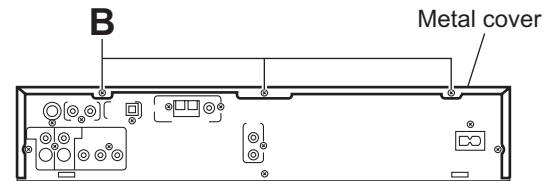

Fig.3
- (2) From the back side of the main body, remove the three screws **B** attaching the metal cover. (See Fig. 3.)